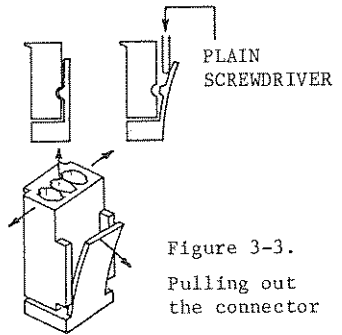

Figure 3-3. Pulling out the connector
- (1) Disconnect the input power cord from the input AC power line. Remove the cover referring to Section 4-1-3. Remove the clamping-screws of the PC board (A-650).
- (2) On PC board A-650, pull out connector D and insert it in connector position E. Do not forcefully pull out the connector as it is locked. To pull out the connector, see Figure 3-3.
- (3) Insert connector H (supplied) in connector position D.
- (4) Fix the PC board and the cover.
- (5) Post on the transparent cover above terminals ⑥ - ⑦ the following seal mark (supplied):
- o If the instrument has been set for the standard connections of terminals (standard connections of internal connectors A, B and C, and switch S), perform the following procedure starting by Step (5).
- (1) Disconnect the input power cord. Remove the cover referring to Section 4-1-3. Remove the clamping-screws of the PCB (A-650).
- (2) Change the connections of connectors A, B and C on PC board A-650 for the mating symbols. (See Figures 3-3, 3-5 and 3-8.)